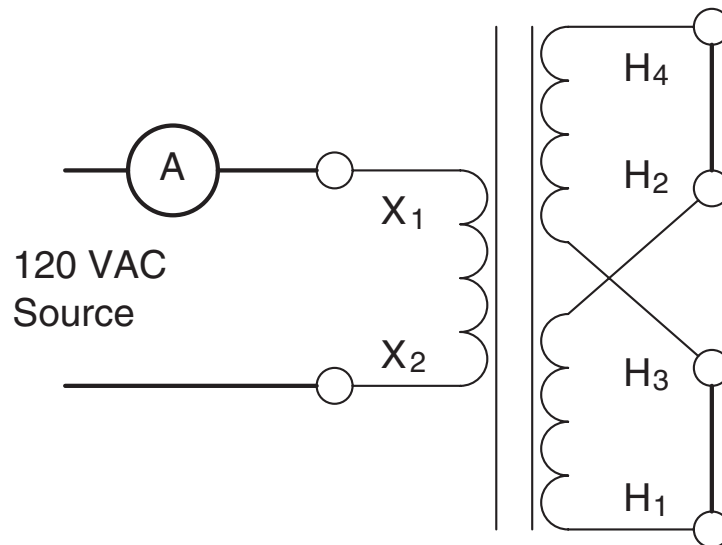

Figure 20-5 Using the low-voltage winding as the primary.
20. Reconnect the transformer by connecting the low-voltage terminals, X₁ - X₂, to a 120 volt AC source. Connect an AC ammeter in series with one of the power lines, as shown in Figure 20-5.